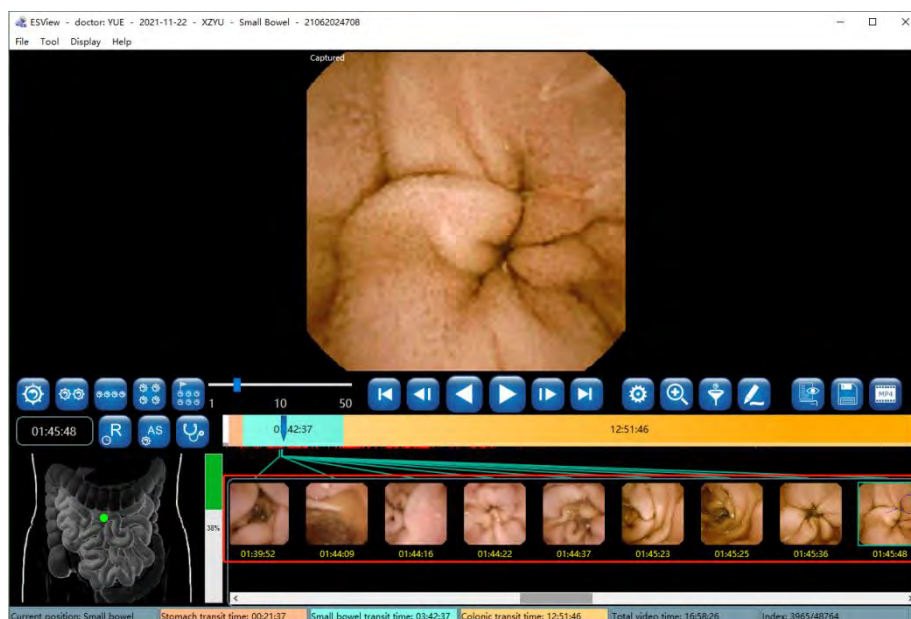

Figure 4-28: Thumbnail Display Area
- Thumbnails of the tagged and captured images are displayed in the thumbnail area, as shown in Figure 4-28.